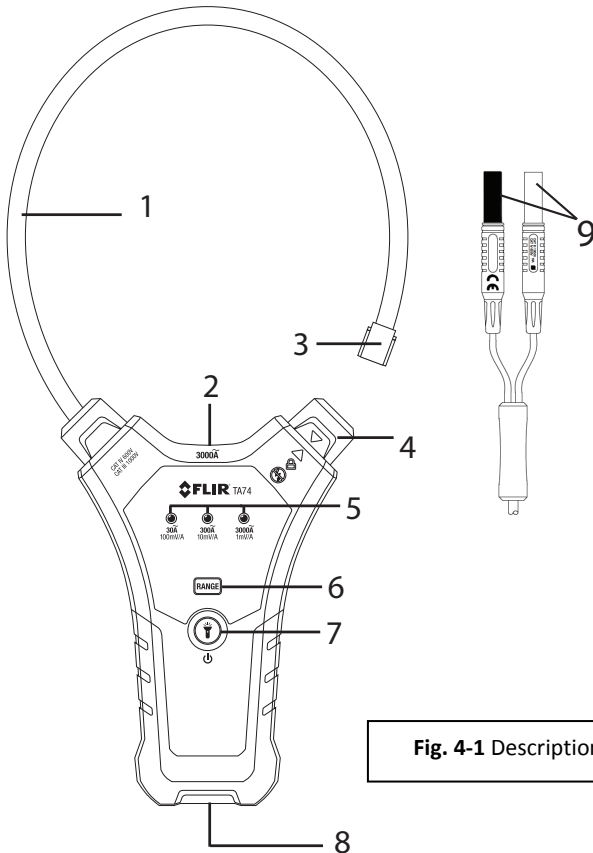

Fig. 4-1 Description
Coil diameter	0.3" (7.5mm); Coil tip (item 3 in Fig. 4-1): 0.5" (13mm)